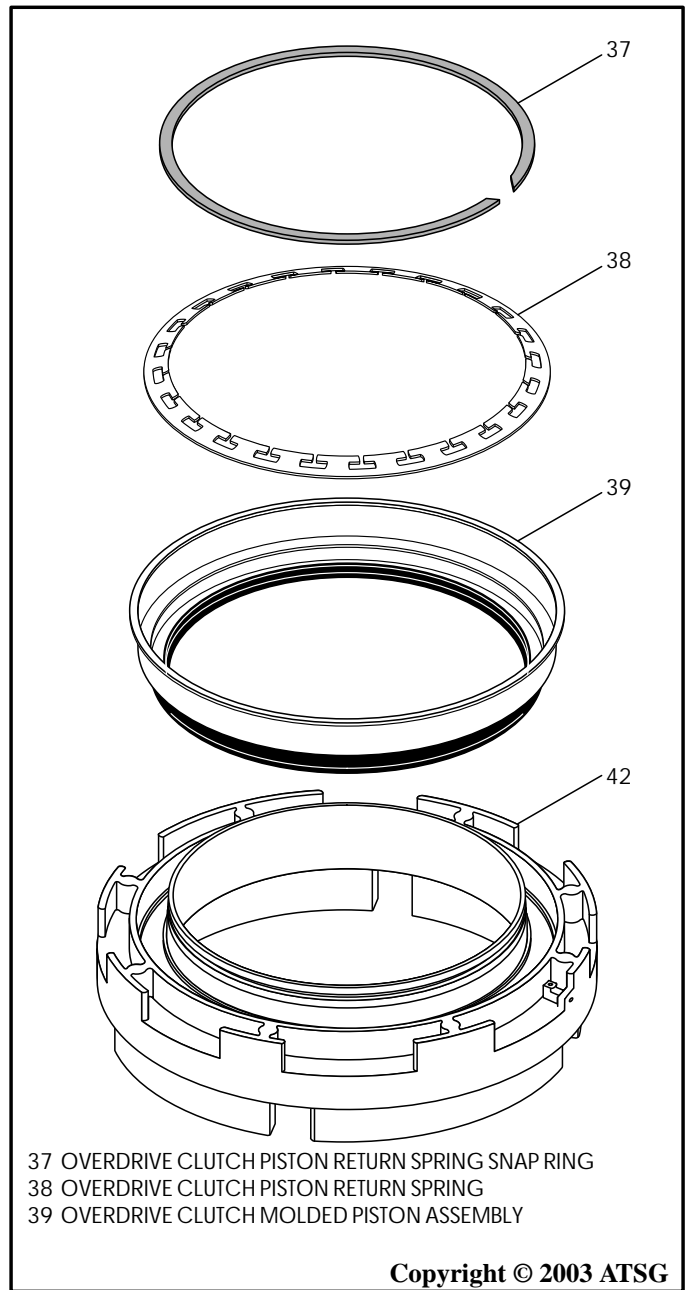

Figure 138
9. Turn the cylinder over, as shown in Figure 138, and install a new overdrive molded piston.
10. Install the overdrive clutch piston return spring in the direction shown in Figure 138.
11. Compress the return spring and install snap ring and ensure it is fully seated (See Figure 138).